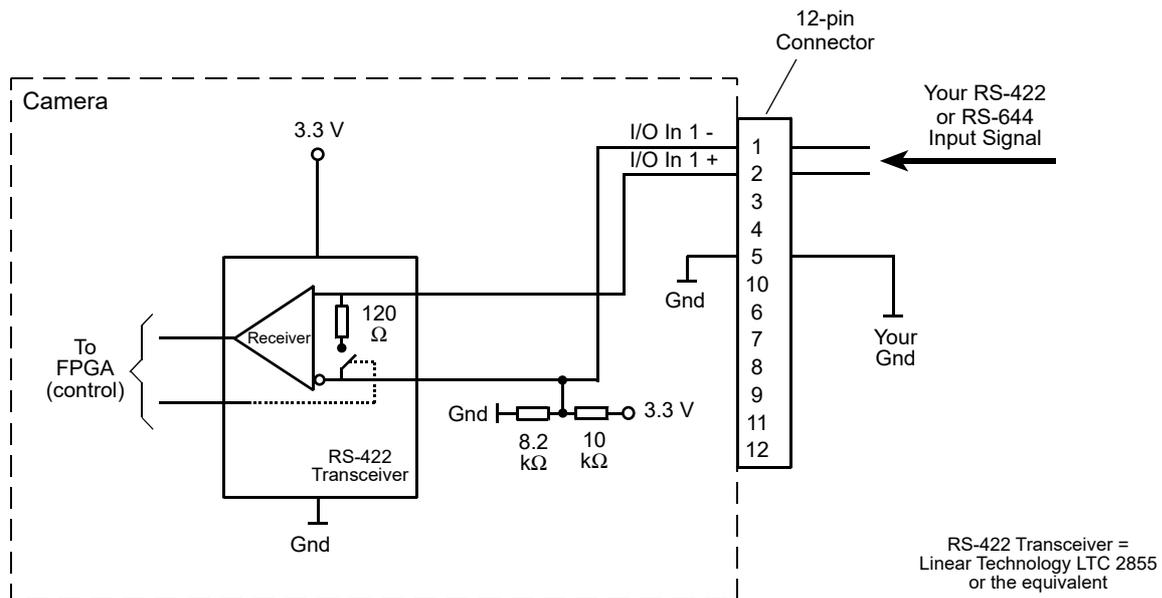
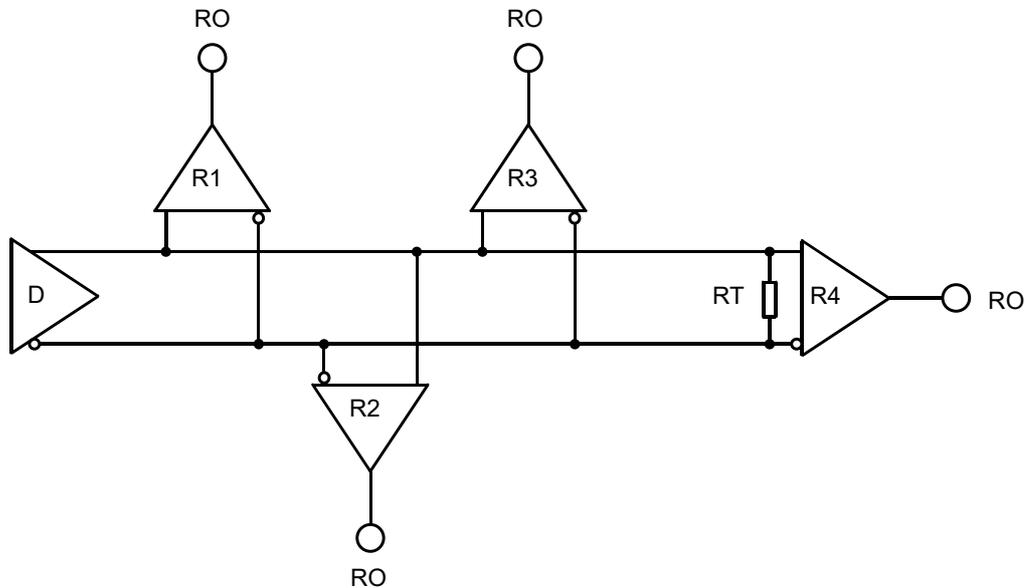

Fig. 19: Inputting RS-422 or RS-644 Signals
Fig. 20: RS-422 Interface Circuit Including Four Receivers as an Example
As shown in Fig. 19 and in the I/O schematic at the beginning of this section, each input is designed to receive an RS-422 signal.
For the camera's I/O circuitry to operate properly, you **must** supply a ground as shown in Fig. 19.
The RS-422 standard allows devices to be used with a bus structure to form an interface circuit. So, for example, input line 1 on several different cameras can be connected via an RS-422 bus as shown in Fig. 20.
The separations between receivers and bus should be as small as possible. The bus must be terminated by a 120 ohm termination resistor (RT). Each RS-422 input on the cameras includes a switchable 120 ohm termination resistor as shown in Fig. 19. When a camera input of the last receiver in the bus terminates the bus (as shown in Fig. 20.: R4), the termination resistor on that input should be enabled. You should not use multiple termination resistors on a single bus. Using multiple termination resistors will lower signalling reliability and has the potential for causing damage to the RS-422 devices.